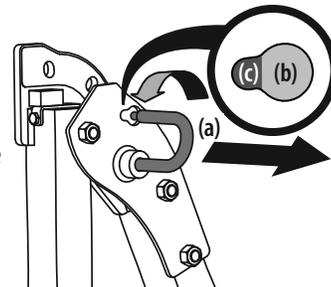

Figure 4
2. pull slightly up on the upper ROPS to relieve any tension on the locking pin (a) and rotate the locking pin (a) from the LOCKED (b) position into the ADJUSTMENT (c) position. Repeat the procedure for the locking pin on the opposite side. See Figure 4.